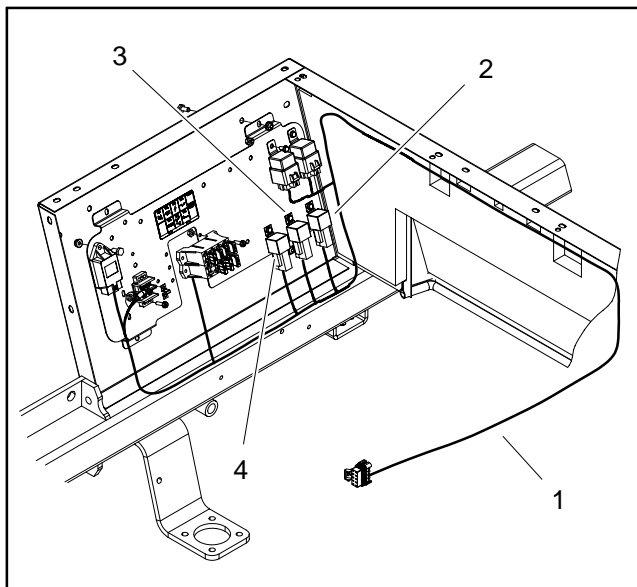

Figure 27
The main, glow and speed lock relays are attached to the electric panel under the operator seat (Fig. 27). Relays can be identified by a tag on the wire harness. The main, glow and speed lock relays have four (4) terminals.